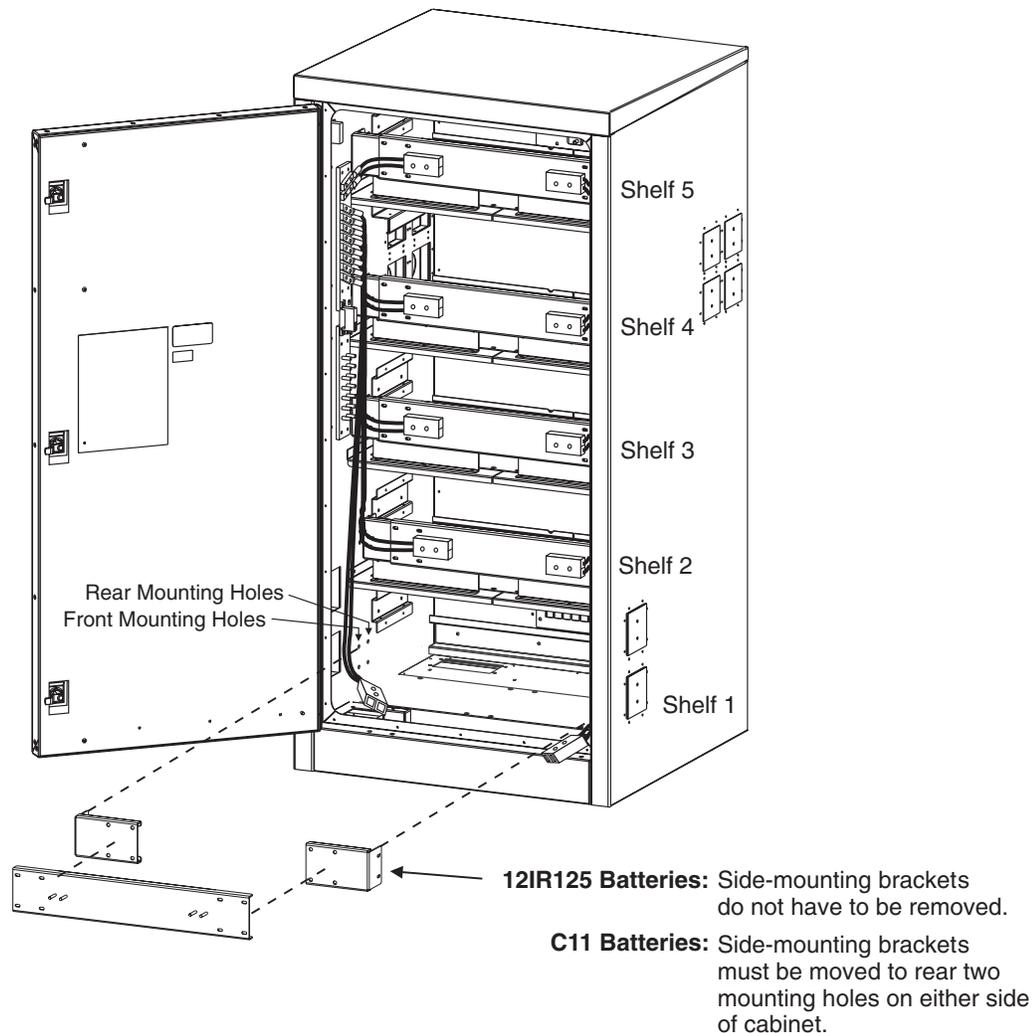
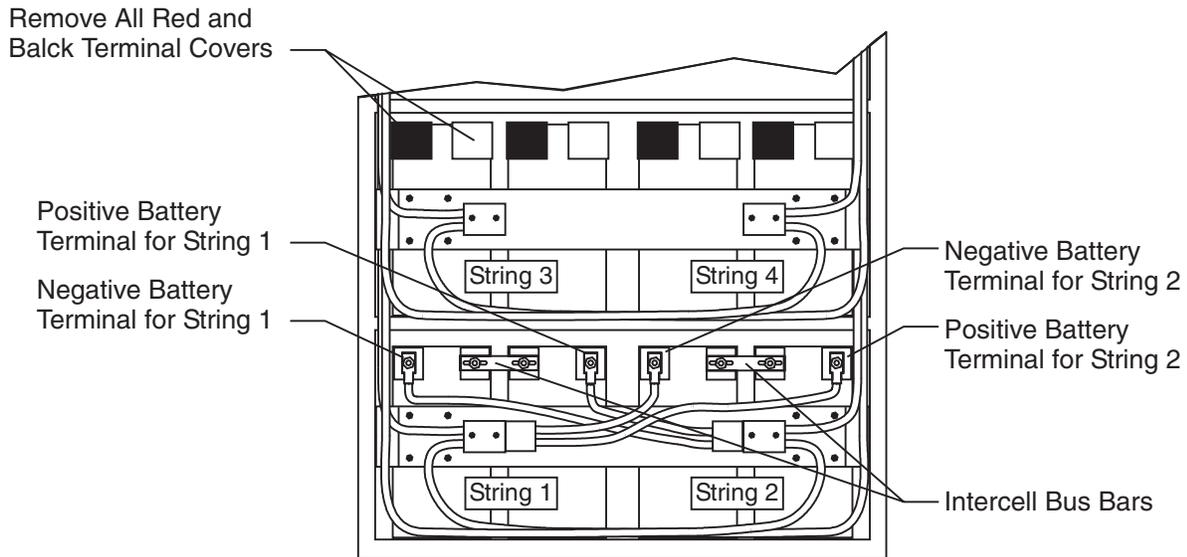
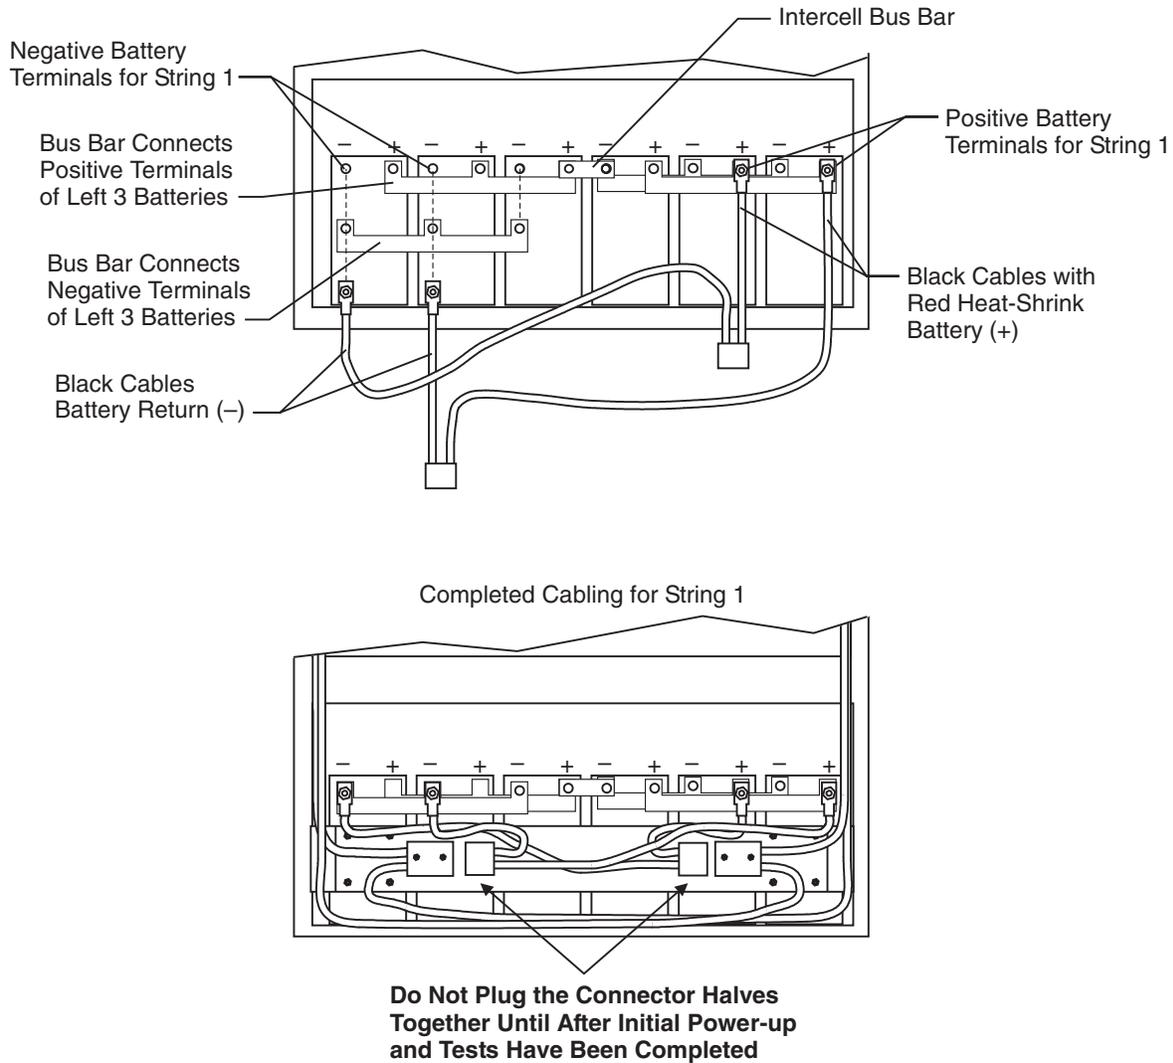

Figure 4-14: Shelf Brackets and Factory-Wired Connector Sets
Figure 4-15: 12IR125 Battery Modules and Connectors
Figure 4-16: Hawker C11 Battery Modules and Connectors
Refer to Figure 4-14 front view of the battery cabinet and Figure 4-15 12IR125 battery wiring throughout this procedure.
In the following steps, be certain to check that the polarity marking on each cable matches that of the battery terminal. Positive polarity cables have Red heat shrink over the connector barrels; negative polarity cables have Black. Be certain not to reverse the cables sets on each shelf. Refer to Figure 4-15.
10. Locate the intercell bus bars provided with the battery modules. Spread a thin coat of antioxidant on one of the bus bars. For battery string 1, place the coated bus bar between the positive terminal of the left-most module and the negative terminal of the module to its right (Figure 4-15). Using a battery terminal nut and washer, secure the bus bar to each terminal by hand tightening the nut.
Refer to Figure 4-14 front view of the battery cabinet and Figure 4-16 Hawker SBS C11 battery wiring throughout this procedure.
1. Battery strings are to be equipped starting from the bottom of the battery cabinet (shelf 1) to the top (shelf 5). Refer to Figure 4-16 for mounting batteries on a shelf. Each shelf will hold a single string consisting of 6 battery modules in the C11 battery configuration. Remove the shop-wired battery connectors from the front of each shelf that is to be equipped with batteries. Retain this hardware for reuse. Move the connector cable sets to the sides along with the thermistor wire sets (1 per shelf) for the Battery Temp Control unit. Remove the front mounting bracket for these shelves also, retaining all mounting hardware for reuse. Move the
left and right side mounting brackets from the front hole pairs on the sides of the cabinet to the rear hole pair as shown in Figure 4-14. Locate the battery side half of each of the connector assemblies (2 per shelf) and verify that they are disconnected from the shop-wired halves.
2. Place six C11 Hawker batteries on a shelf. The battery terminals should face the front of the cabinet as shown in Figure 4-16. Repeat for the remaining battery strings to be equipped in the cabinet.
In the following steps, be certain to check that the polarity marking on each cable matches that of the battery terminal. Positive polarity cables have Red heat shrink over the connector barrels; negative polarity cables have Black. Be certain not to reverse the cables sets on each shelf. Refer to Figure 4-16.
4. Locate the module straps that were provided with the C11 modules and spread a thin coat of antioxidant on each of them. Position the supplied 3-module straps over all the positive battery terminals and all the negative battery terminals as depicted in Figure 4-16. Position such that the positive strap is facing the cabinet front on the right half of the string and the negative strap faces out on the left half of the string. Hand tighten the 1/4-20 hardware, flat washer, lock washer and nut to hold the straps in place. Repeat for all equipped shelves.